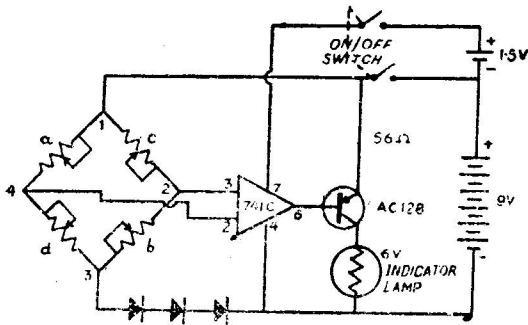

Fig. 10
**Circuit description :** The circuit is based on well known wheatstone's bridge. This bridge consists of four arms of resistances, shown in figure 10 by a, b, c, d.